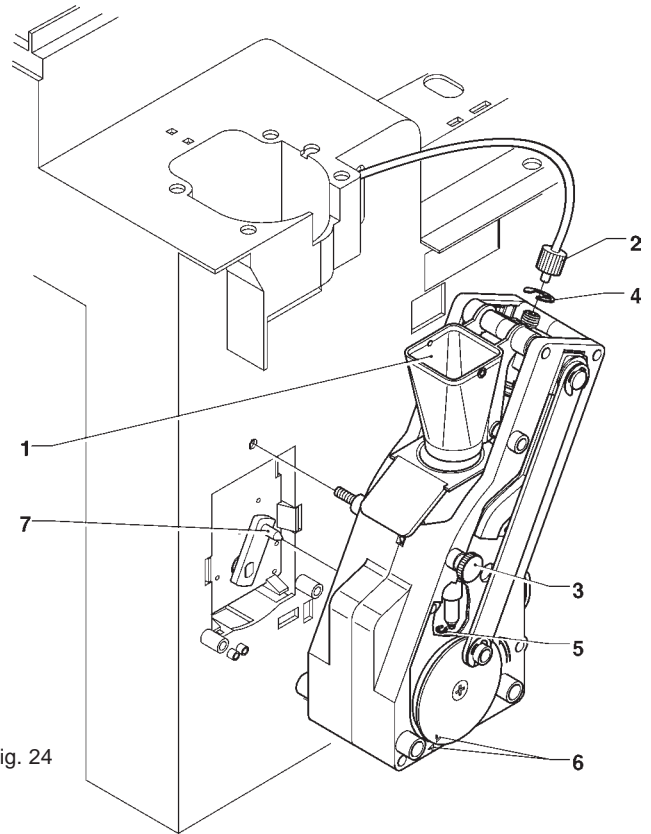

Fig. 24
- remove the boiler Teflon hose connection from the upper piston, paying attention not to lose the seal (see Fig. 24);
- Remove the coffee funnel (see Fig. 24);